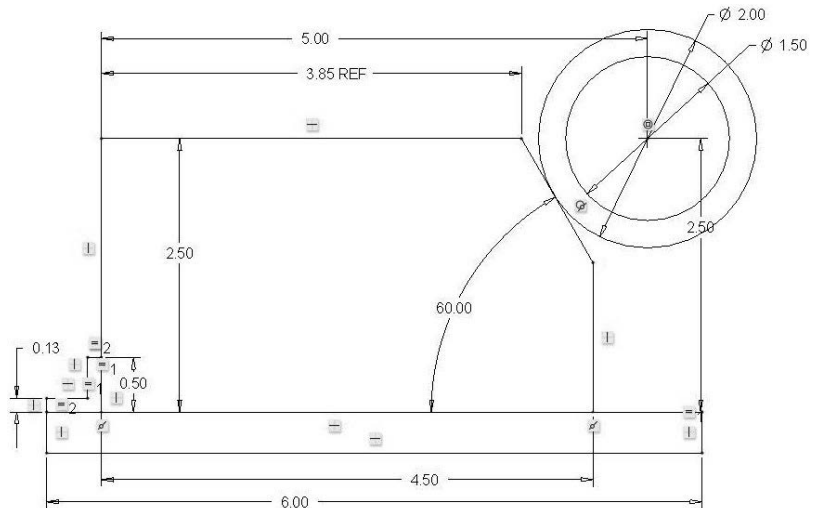

Figure 3-63 Jig Design 1b
Step 27: Modify the dimensions according to Design_1b’s parameters shown in Table 3-2 and Figure 3-63. To modify a dimension *double-click* on its value using the LMB, and then type a new value followed by the <Enter> key.